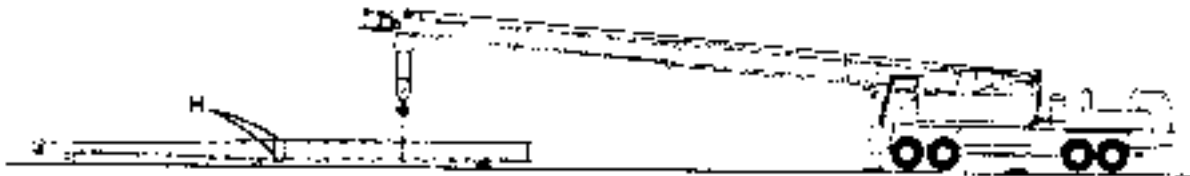

Fig. 4-10
**Step 4:** Level the machine. Using the main hoist, raise the rear end of the top section and re-block level as shown in Fig. 4-10.